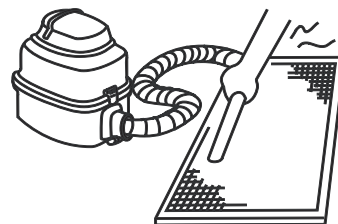

Figure 12.3
a. The air intake side should face up when using a vacuum cleaner. (Refer to Figure 12.3)